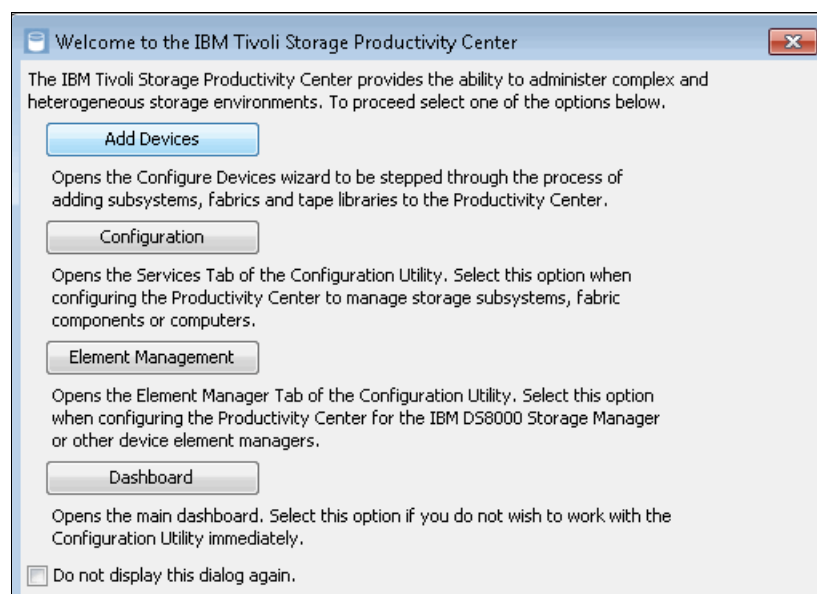

Figure 11-86 Add Devices window
4. After successfully logging in, you are ready to add storage devices to Tivoli Storage Productivity Center, as shown in Figure 11-86.